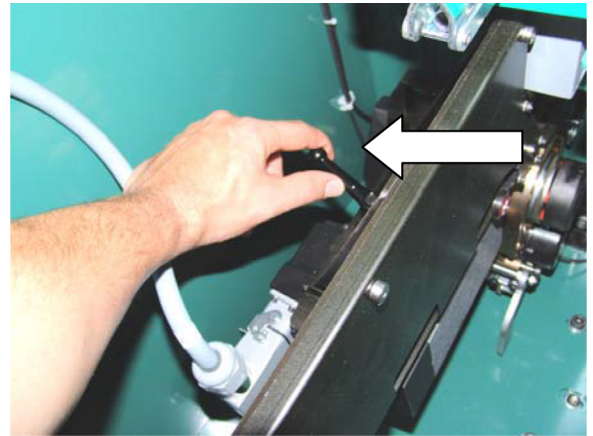

Figure 4-7: Accumulator Box Locking Lever
1. Reach behind the accumulator box and locate the locking lever (arrow) **(Figure 4-7)** which secures the mounting. Loosen the locking lever two or three rotations counter-clockwise.